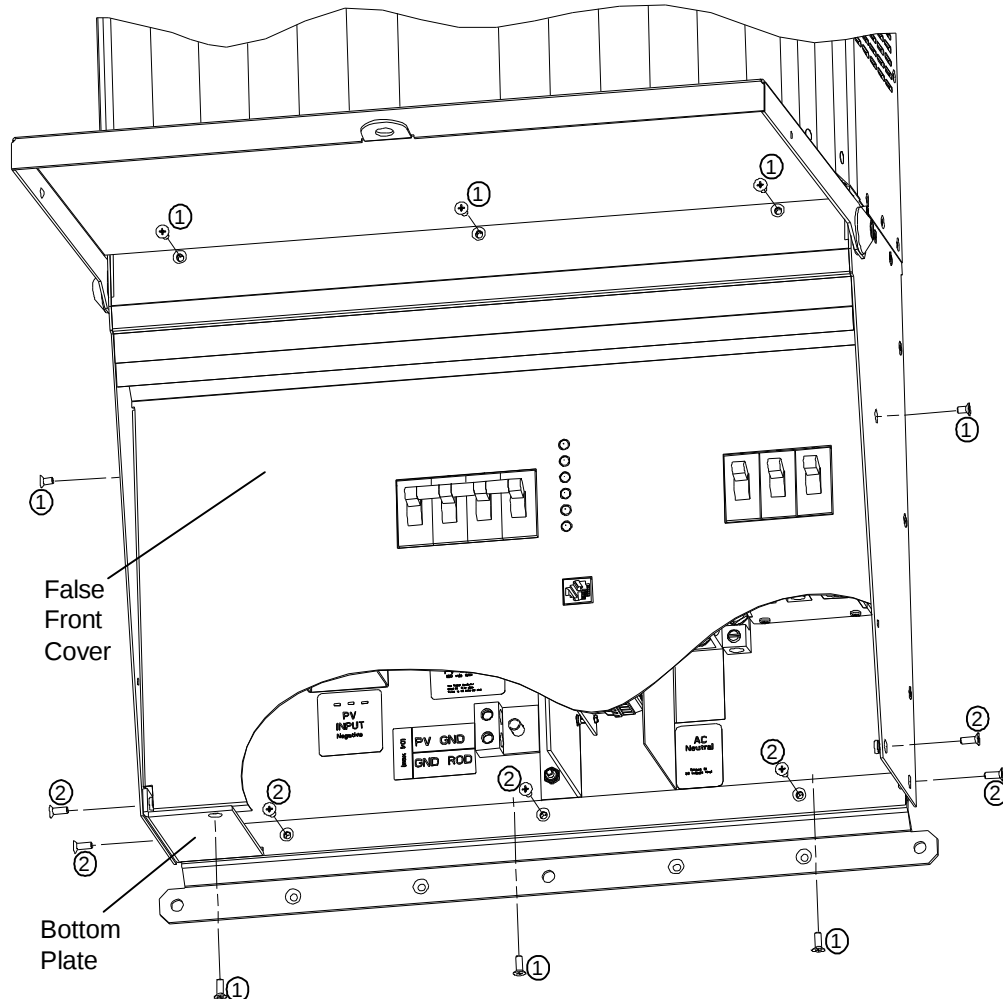

Figure 9: False front screws: ①
2. Remove the 8 screws marked with the symbol ① as shown in Figure 9.
See Figure 9 for removal instructions of the 7 screws to remove the bottom plate. The screws are marked with the symbol ②. Once the plate is removed, punch the necessary holes for the conduit connections